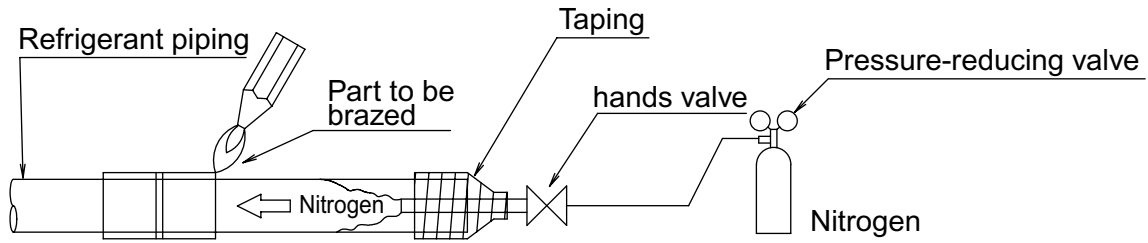

Fig. 15
- Nitrogen should be set to 0.02 Mpa (0.2 kg/cm²) with a pressure-reducing valve if brazing while inserting nitrogen into the piping. (Refer to Fig.15)